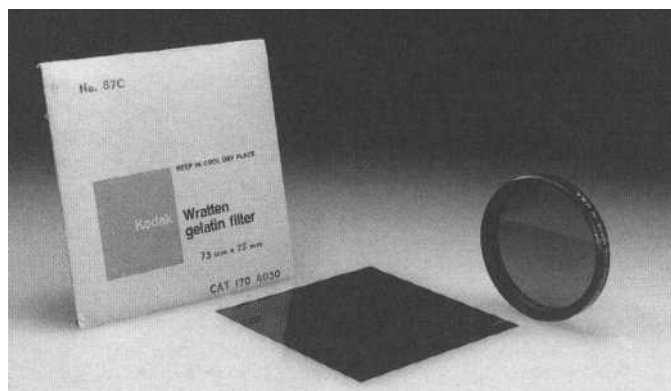

Figure 10-1 Gelatin filter with its envelope and screw-in glass filter.
- Gelatin filters (Fig. 10-1) are a thin, colored plastic material, usually as unmounted squares. They are the best optically because of their thinness, are relatively inexpensive, and can easily be cut to size or shape as needed. Their disadvantages are case of damage by scratching, fingerprints, or wrinkling.